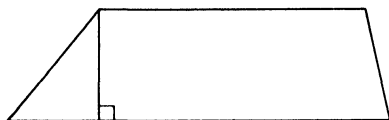

Fig. 84a.
3. Find the area of the figure in Fig. 84a, after making all necessary measurements with a rule graduated in 32nds. Estimate the area first.